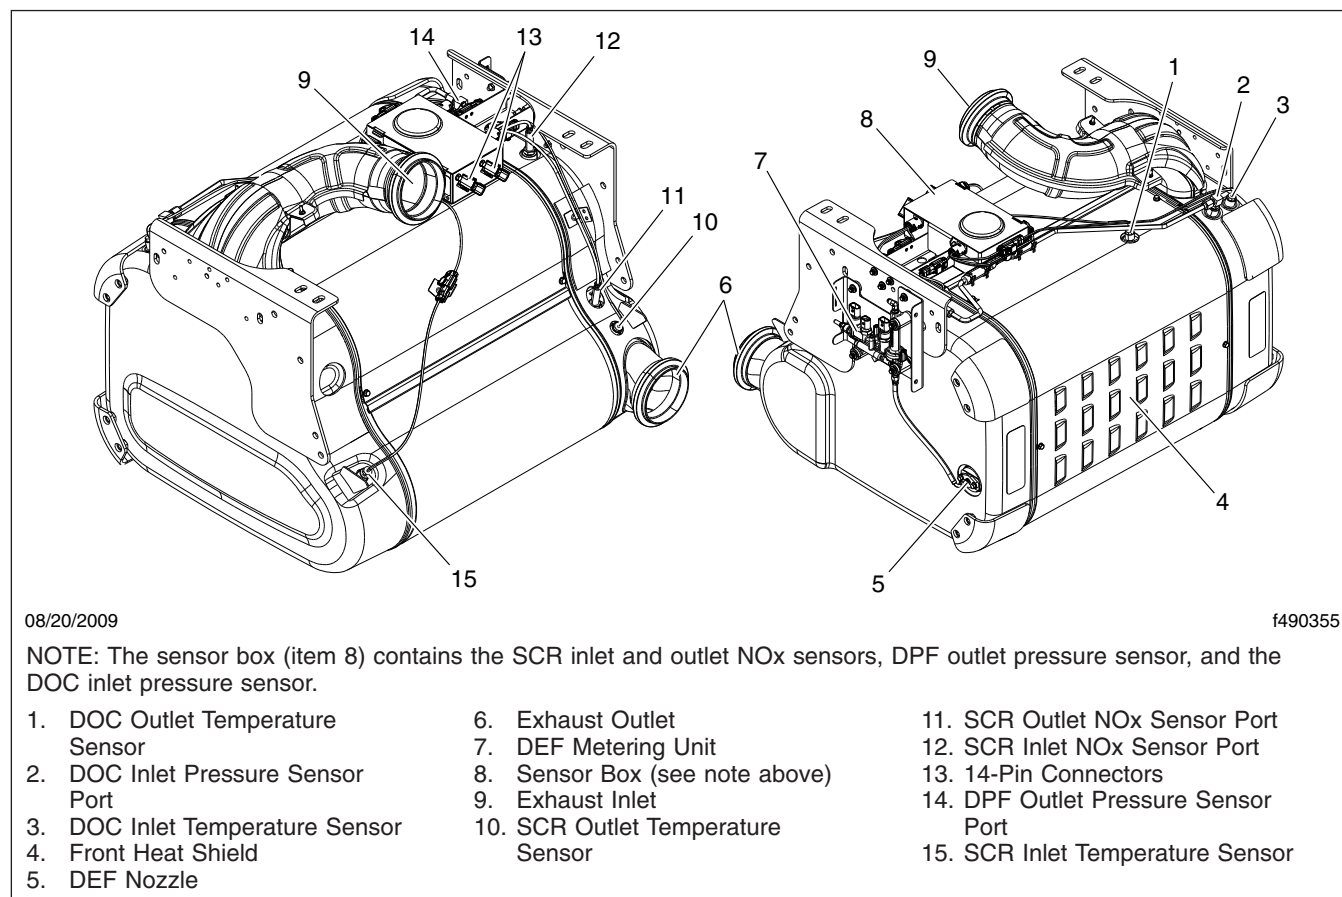
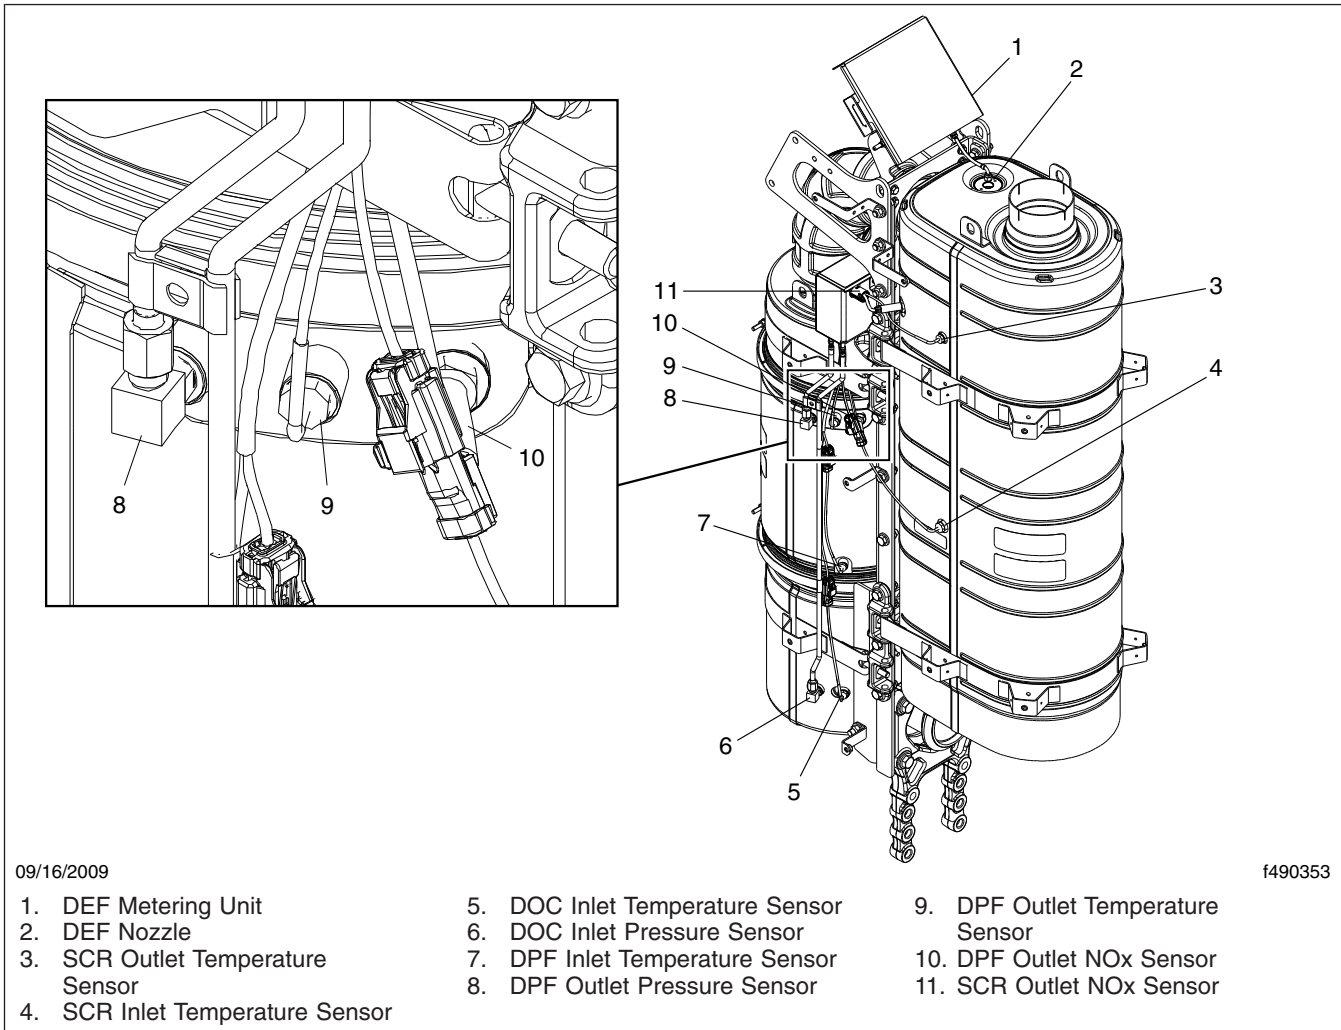
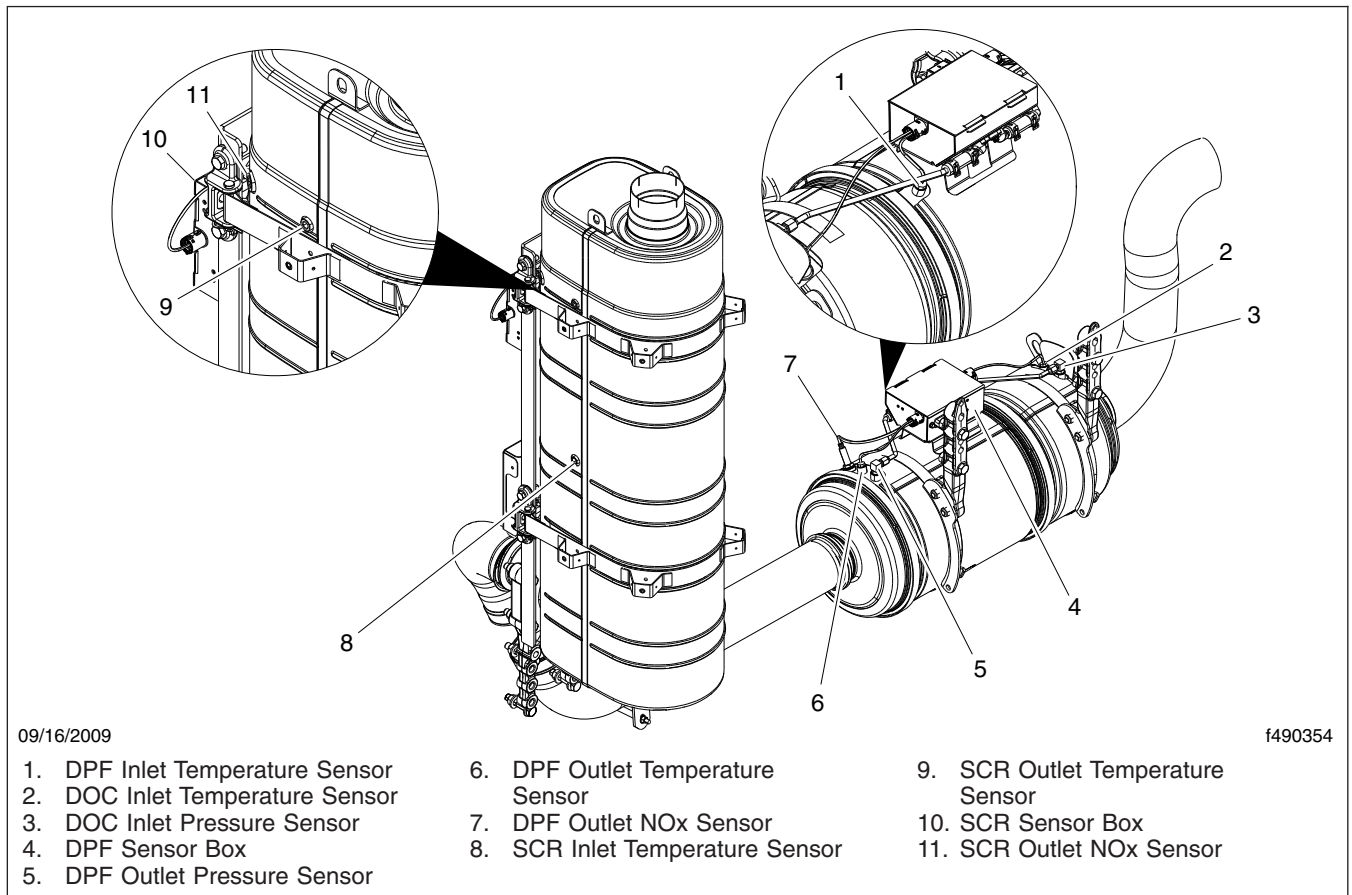

Fig. 1, One-Box ATS Sensor Locations
Fig. 2, 2V2 Two-Box ATS Sensor Locations
Fig. 3, 2HV Two-Box ATS Sensor Locations
6. Check all sensors attached to the ATS for leaks or damaged wires. No leaks are allowed. See Fig. 1, Fig. 2, or Fig. 3 for Detroit Diesel ATS sensor locations.